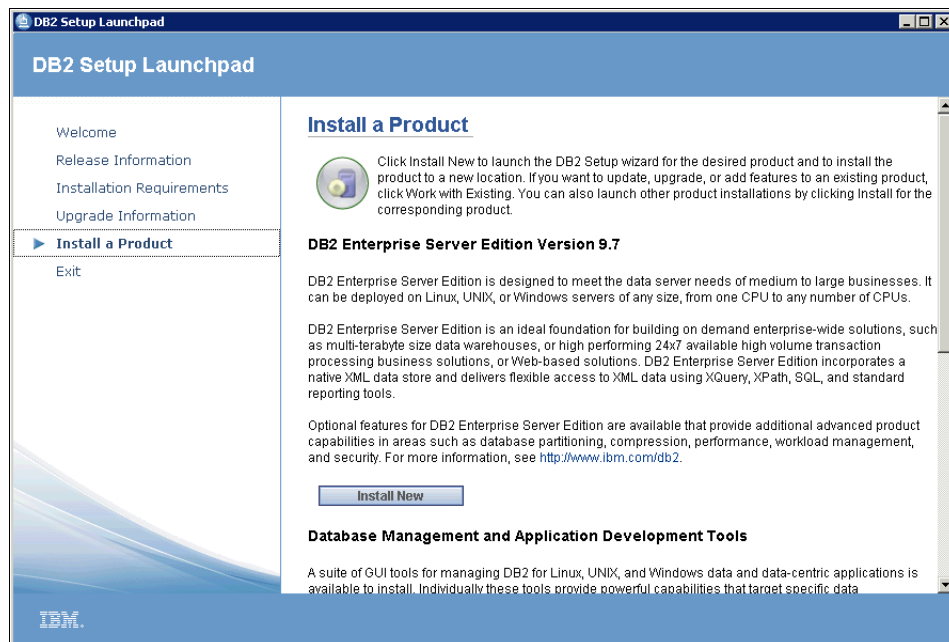

Figure 12-3 Select product
2. The next window allows you to select the DB2 product to be installed. Select **DB2 Enterprise Server Edition Version 9.7** by clicking **Install New** to proceed (Figure 12-3).